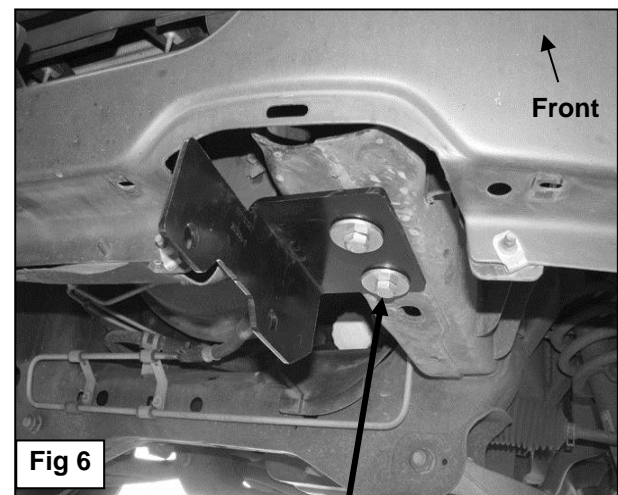

Fig 6
(2) 12mm Nylon Lock Nuts
- b. Starting on the driver side of the vehicle, insert (1) 12mm Double Nut Plate through the opening in the open front end of the frame, (**Figures 5A & 5B**). Line up the threaded hex nuts on the Nut Plate with the (2) factory holes in the bottom of the frame channel. Hold the Nut Plate in position with (1) 12mm x 40mm Hex Bolt, (1) 12mm Lock Washer and (1) 12mm x 44mm Large Flat Washer partially threaded into the rearmost threaded hole in the Nut Plate, (**Figure 6**).
- c. Select the driver side Frame Mounting Bracket. Slide the slot in the Bracket under the 12mm Hex Bolt and Washers. Line up the remaining hole in the Bracket with the forward hole in the Nut Plate. Insert (1) 12mm x 40mm Hex Bolt, (1) 12mm Lock Washer and (1) 12mm x 44mm Large Flat Washer into the remaining hole in the Bracket, (**Figure 6**). Snug but do not fully tighten hardware at this time.